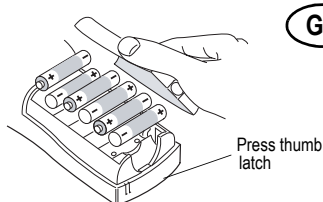

Figure 1
1. Press the thumb latch on the bottom of the printer to open the battery compartment door. See Figure 1.